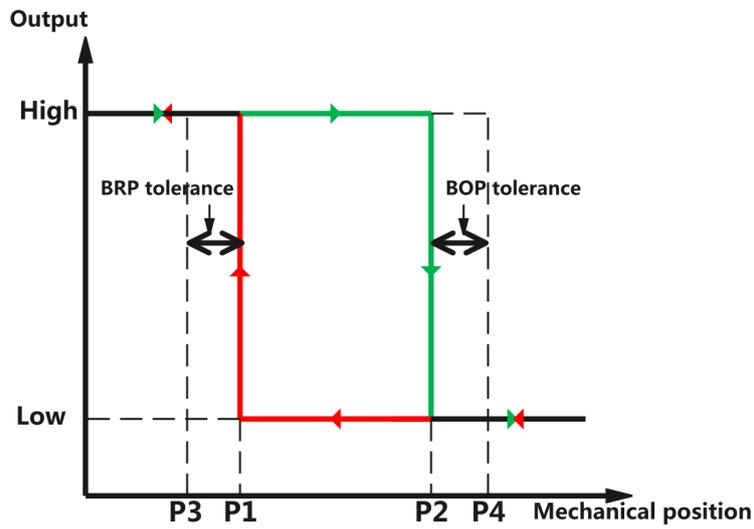

Figure 3.8 Relationship between Mechanical Position and Output
- Figure3.8 shows a unipolar standard polarity application case. X-axis represents the mechanical position and Y-axis represents the chip output.